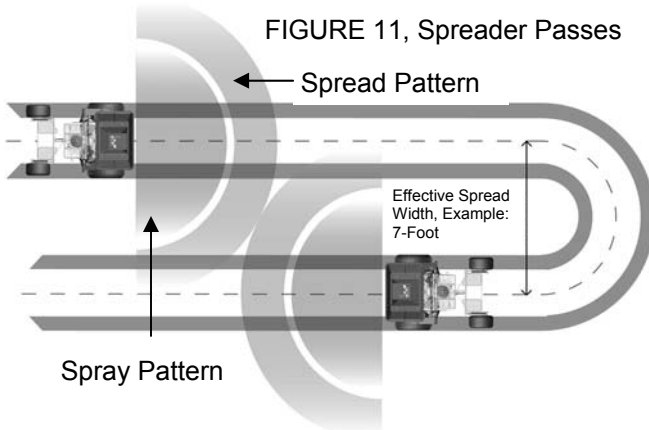

FIGURE 11, Spreader Passes
- Referring to FIGURE 11, fill the center of the lawn by making parallel passes.